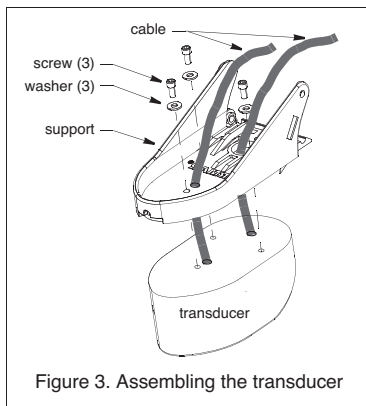

Figure 3. Assembling the transducer
1. There are two cables. Thread each cable through the corresponding hole in the transducer support (Figure 3).